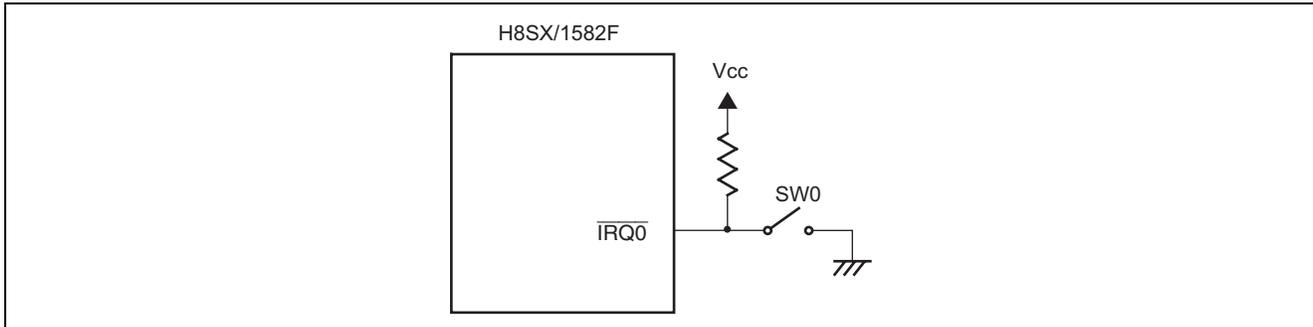

Figure 1 Block Diagram of Connecting a Switch
- Figure 1 shows an example of connecting a switch to the $\overline{\text{IRQ0}}$ pin.